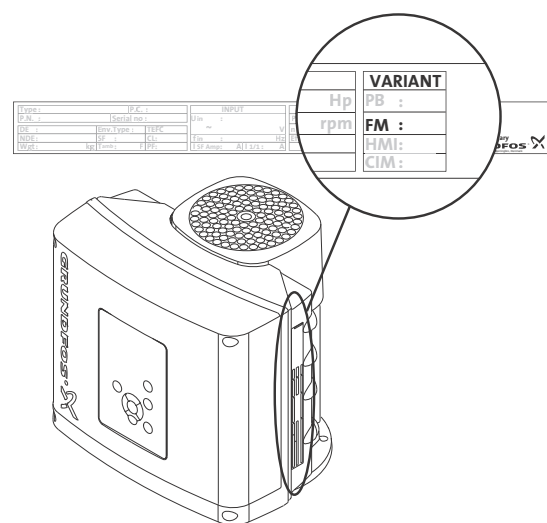

Fig. 88 Identification of functional module
The number of terminals depends on the functional module (FM). You can identify the fitted module on the motor nameplate. See fig. 88.